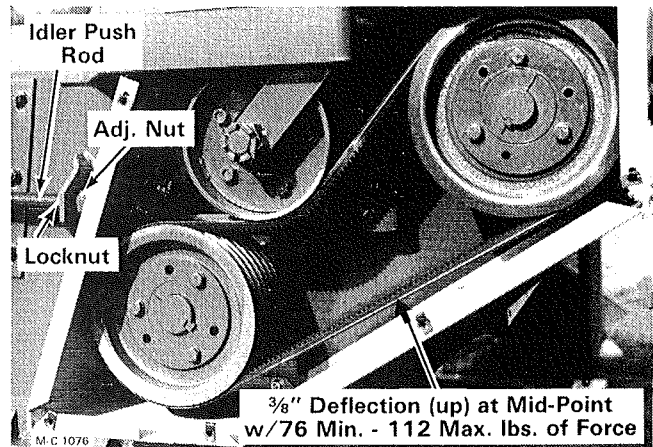

Figure 30 - Above S/N 50438
2. Correct belt tension is  $\frac{3}{8}$ " upward deflection (full width of the belts) at mid point with a force of 76 lbs. min. - 112 lbs. max., see Figure 30.